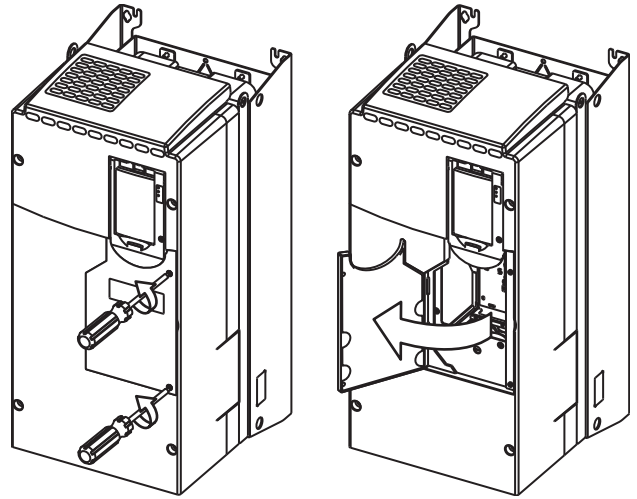

Fig. 2 — Opening Access Door
1. Using recommended screwdriver = 6.4 mm (0.25 in.) flat or T20 star, open access door. See Fig. 2.